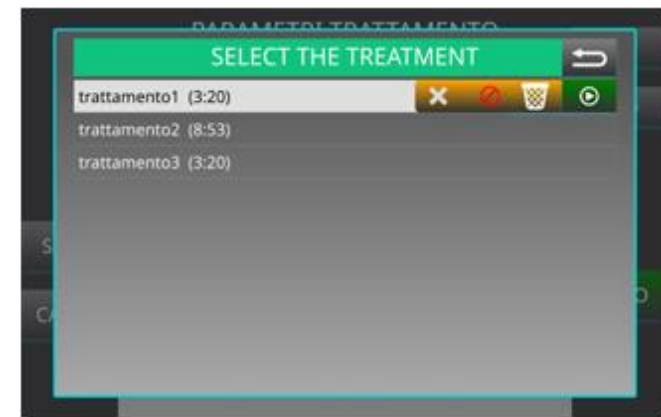

fig9
3. Select the desired customized program in the list of therapies, the button will appear  (figure 9). Press the key to open the treatment;
8. Pressing the button depicting the bin leads to the appearance of two other symbols: a prohibition and an X (figure 9).